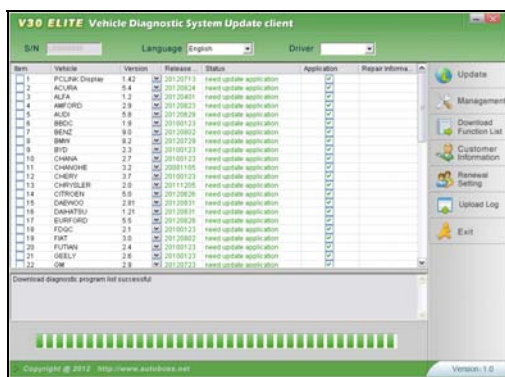

Fig 2-3 Program list screen
(4) After download is finished, all updates available will be displayed as shown in Fig 2-3.
(5) The update client will automatically identify new updates available for your V30 ELITE.